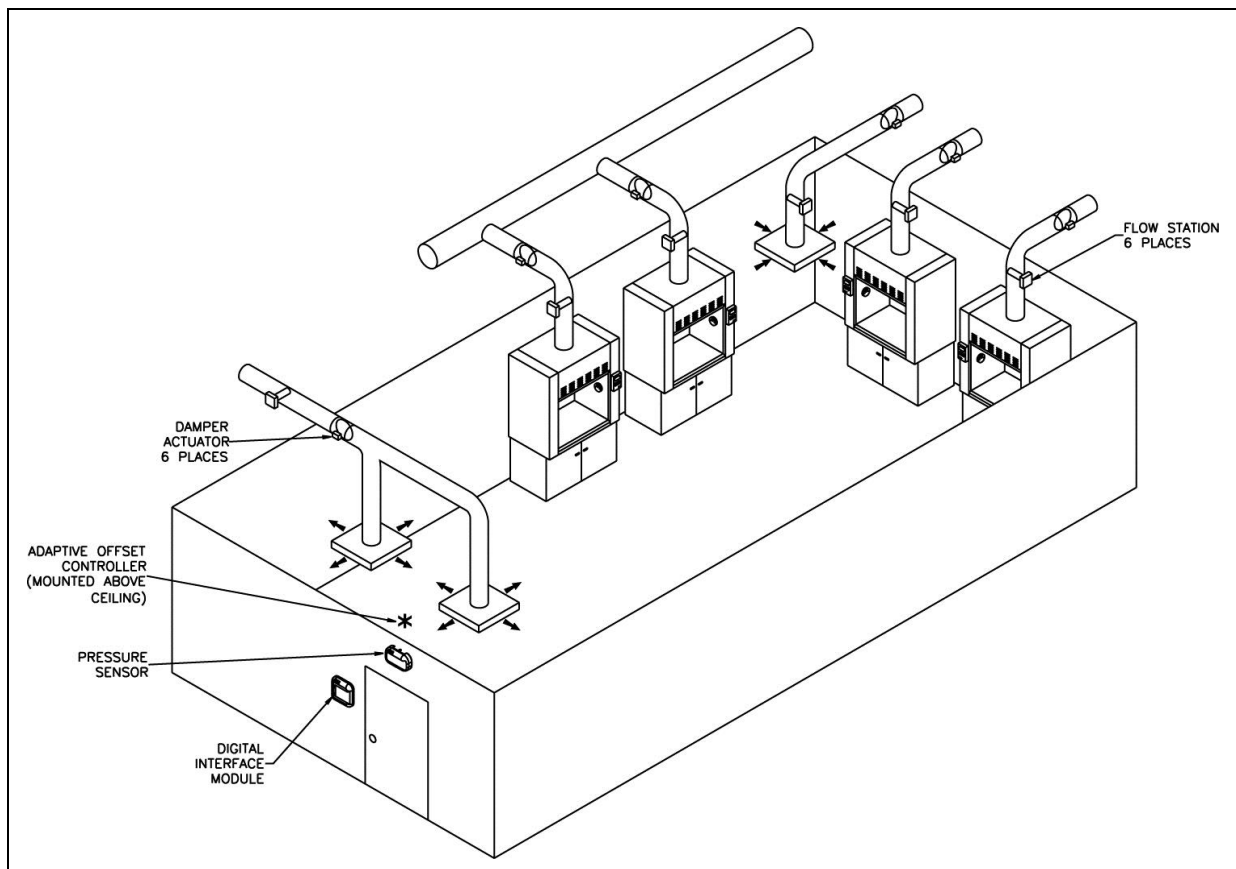

Figure 1: Typical Laboratory Installation
1. Select the mounting location of the Digital Interface Module (DIM). The construction plans normally show the mounting location. If no location is specified, the unit is typically installed as shown in Figure 1, either in the laboratory or in the hallway.
1. Select the mounting location of the Adaptive Offset Controller (AOC) case. The construction plans normally show the mounting location. If no location is specified, then the unit is typically installed above the ceiling near the entrance to the laboratory (Figure 1).